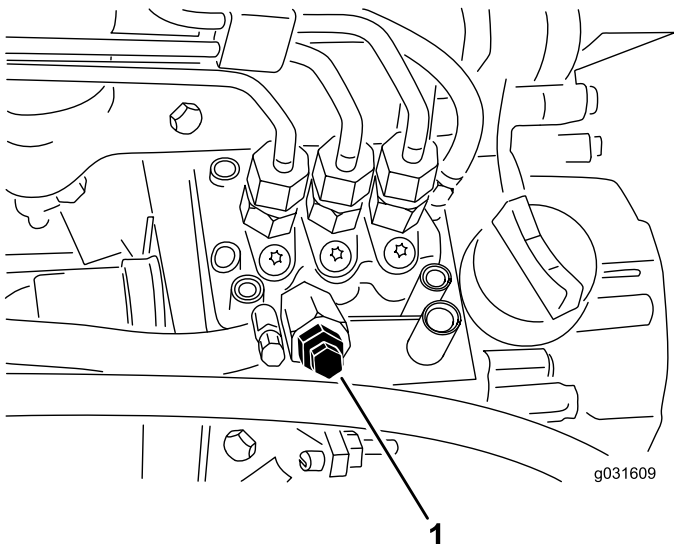

Figure 50
4. Open the air-bleed screw on the fuel-injection pump (Figure 50).